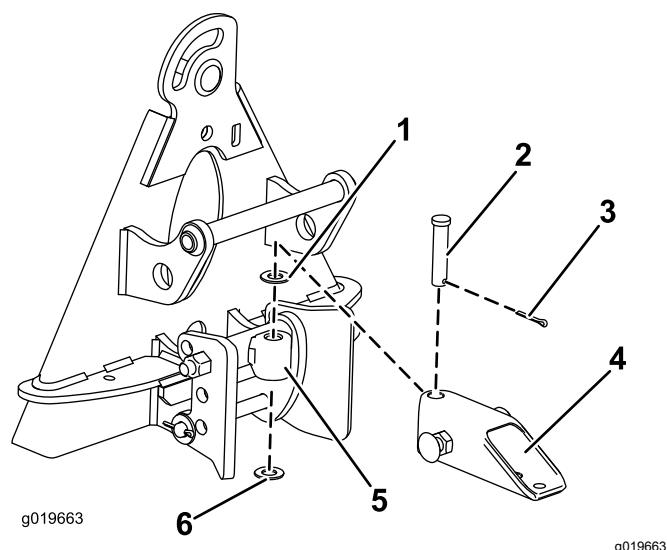

Figure 3
1. Secure the tongue tube assembly to the hitch assembly with a clevis pin, 2 washers and a cotter pin, positioning as shown in Figure 3.